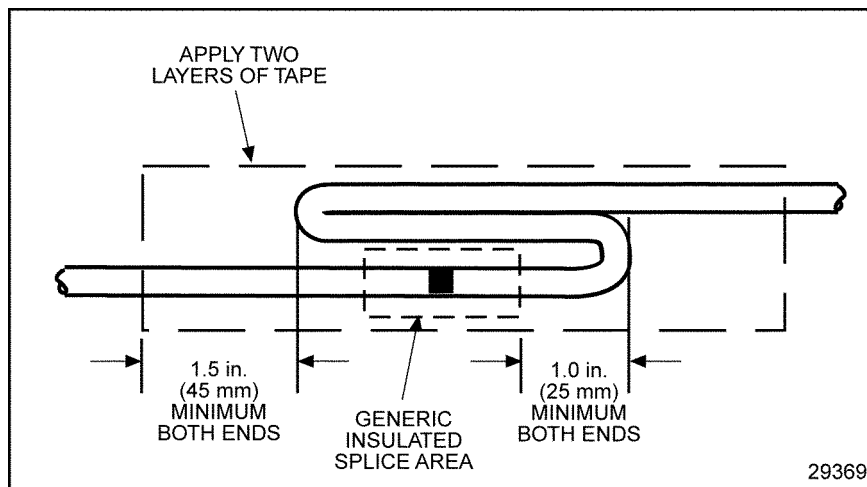

Figure 16-43 Recommended Strain Relief of Spliced Joint
5. Shrink wrap. Loop the lead back over the spliced joint and tape. See Figure 16-43.
8. Loop the lead back over the spliced joint and tape. See Figure 16-43.
9. Loop the lead back over the spliced joint and tape. See Figure 16-43.